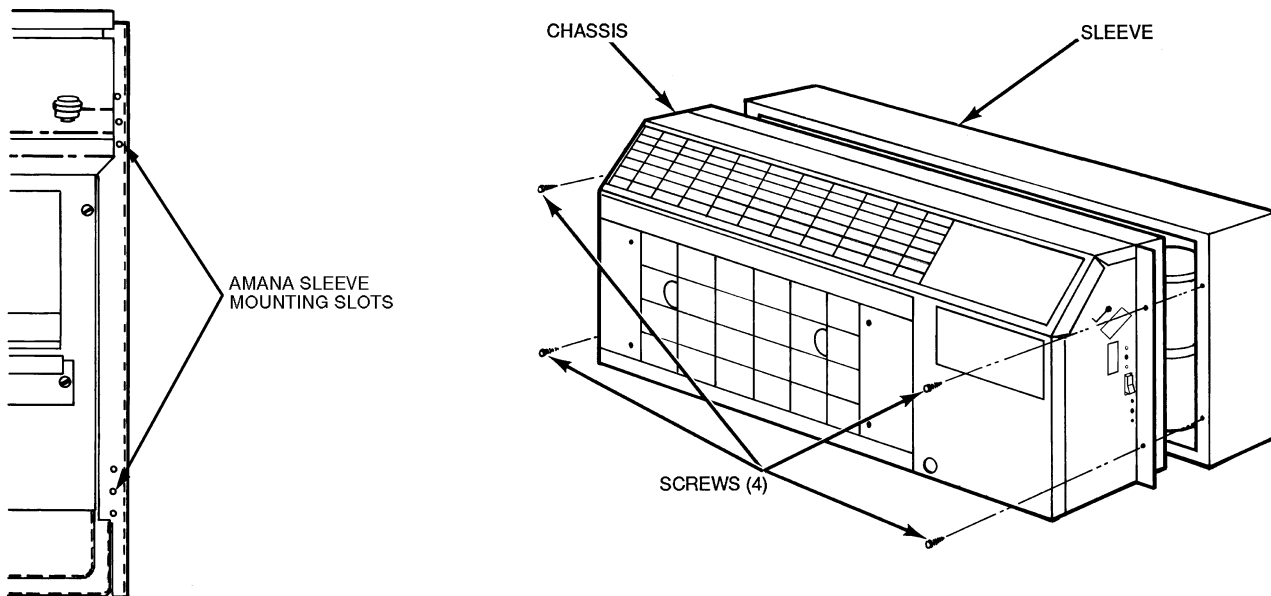

Fig. 4 — Secure Chassis to Sleeve
7. Slide unit chassis fully into wall sleeve to ensure proper fit of foam seals against outdoor grille (Fig. 4).
8. Secure chassis to sleeve with 4 screws provided in kit (Fig. 4). When the chassis is secure, replace the front panel by reversing the instructions in Step 4. Refer to the air conditioner or heat pump installation instructions for further installation information.